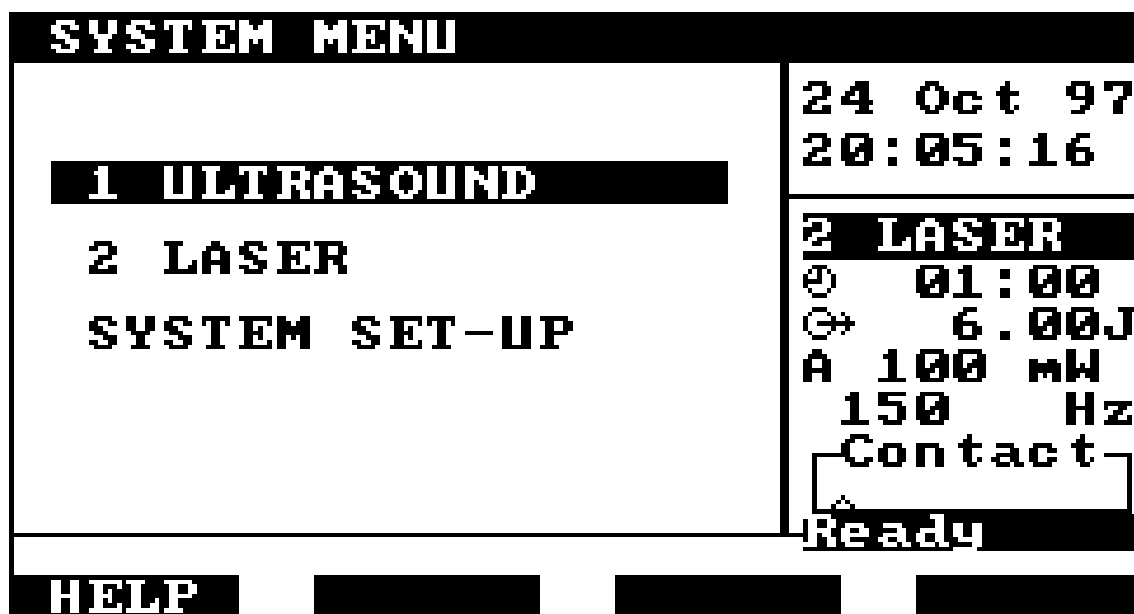

Figure 32 - Laser as inset screen
18. **F3 - SYSTEM:** Pressing F3 - SYSTEM returns the user back to the System Menu, but without stopping the Laser program running. This enables the user to run another application, for example, Ultrasound or Interferential therapy. When F3 - SYSTEM is selected the Laser set-up is shown as an inset screen to the right of the display (figure 32).